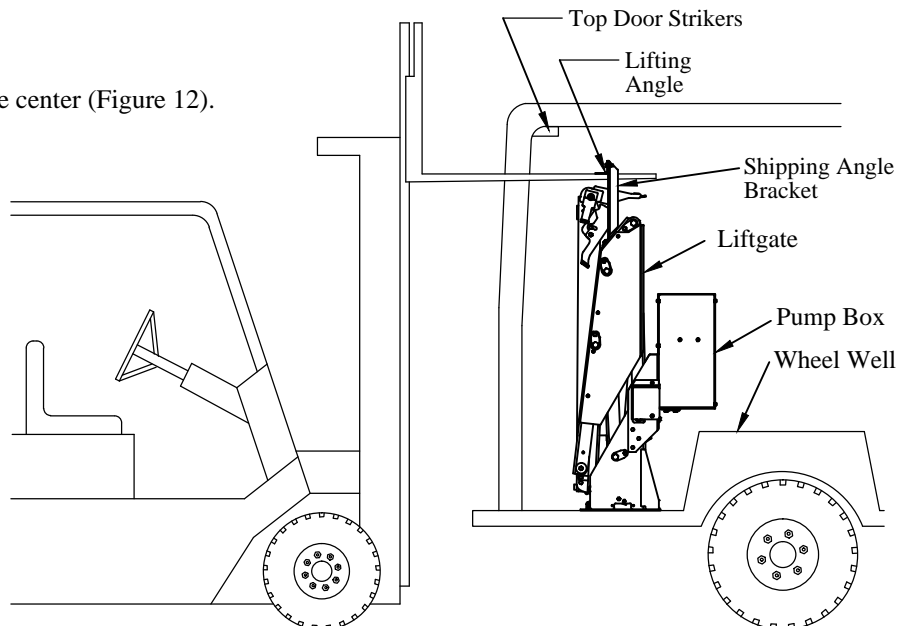

Figure 13: Lifting angle.
1. **Lift** the liftgate by the lifting angle with a fork truck (Figure 13).
1. **Temporarily Remove** the top door strikers, if needed (Figure 13). This is only needed on low roof van with FA49 liftgate. Be sure to mark the exact location and position of the strikers before removing them.
2. **Lift** the liftgate by the lifting angle with a fork truck (Figure 13).
11. **Install** the two (2) rear lower brackets at the "H" locations.
19. **Reinstall** the top door strikers, if previously removed (Figure 13). Be sure to align them with the marks previously made.